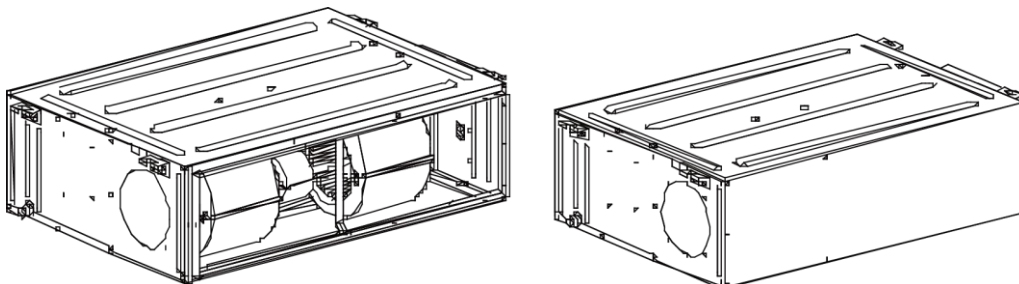

Fig 4.4.6
- (1) The default installation location of the rectangular flange is at the back and the return air cover plate is at the bottom, as shown in Fig 4.4.6.